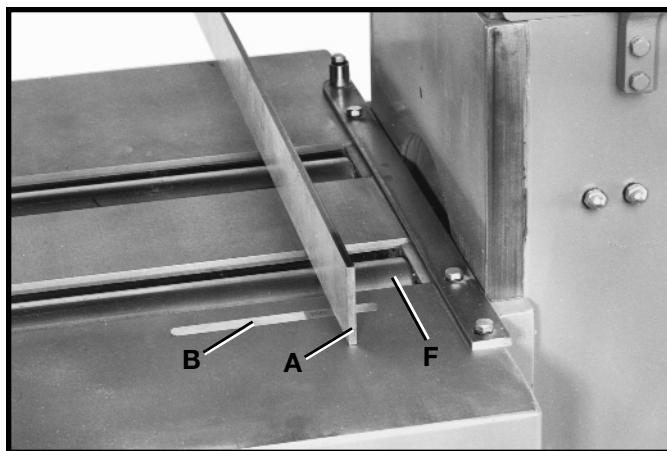

Fig. 25
6. To check the height of the outfeed table roller, proceed as follows: with a feeler gage (B) Fig. 25, measure the gap between the table surface and the straight edge (A) near the outfeed roller (F).